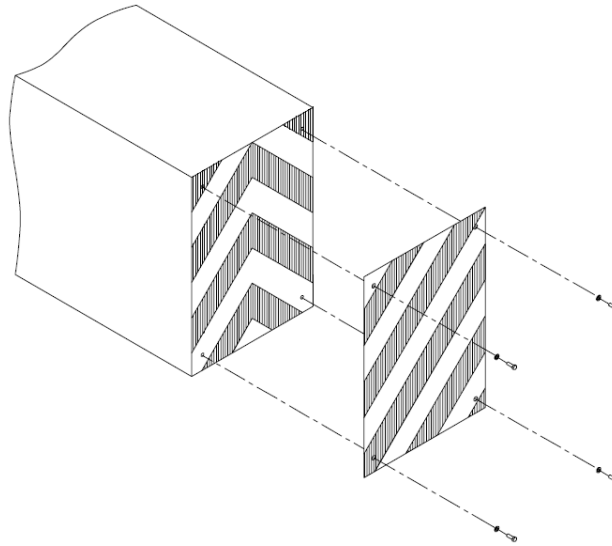

Figure 9
Step 7: Chevron Selection (See Figure 9)